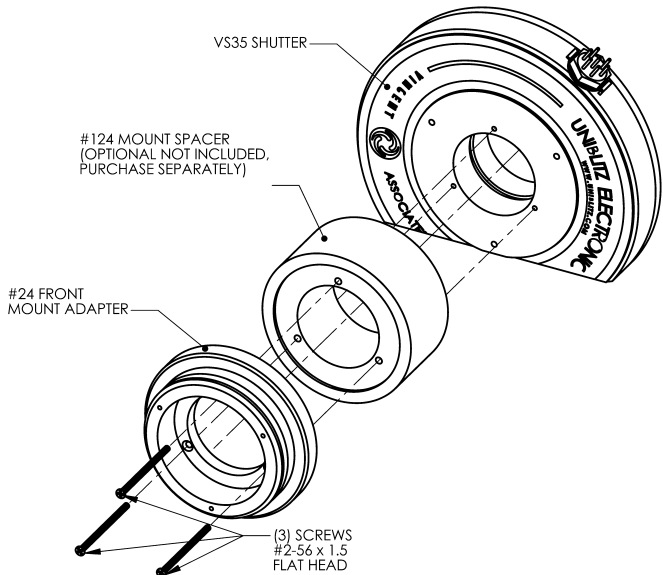

Figure 8
Using (3) flat head screws (1.5" length), attach #124 front mount and spacer to the front of the shutter housing. (See Figure 8)